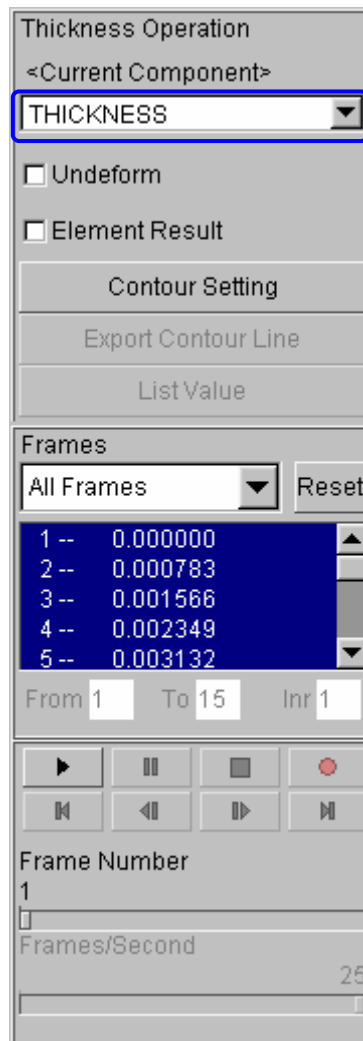

Figure 3.52 Thickness/Thinning contour
- Select **Current Component** from combo box, either THICKNESS or THINNING. The thickness contour of hydroformed tube is illustrated in Figure 3.52.